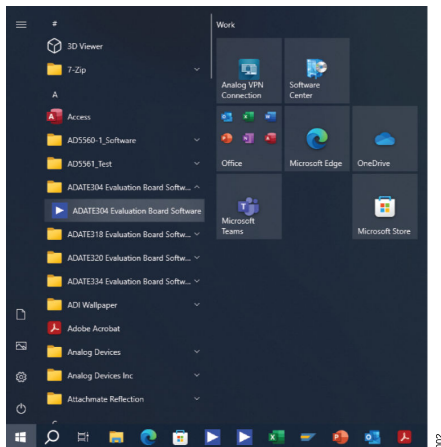

Figure 2. ADATE304 Evaluation Board Software in Start Menu
- ▶ Select the **ADATE304 Evaluation Board Software** in the Windows **Start** menu (see Figure 2).